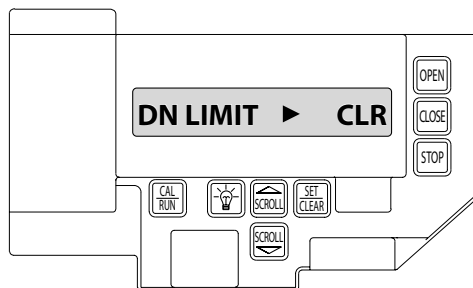

Figure 7B
- 2) Press SCROLL until display reads "DN LIMIT>CLR " Figure 7B.